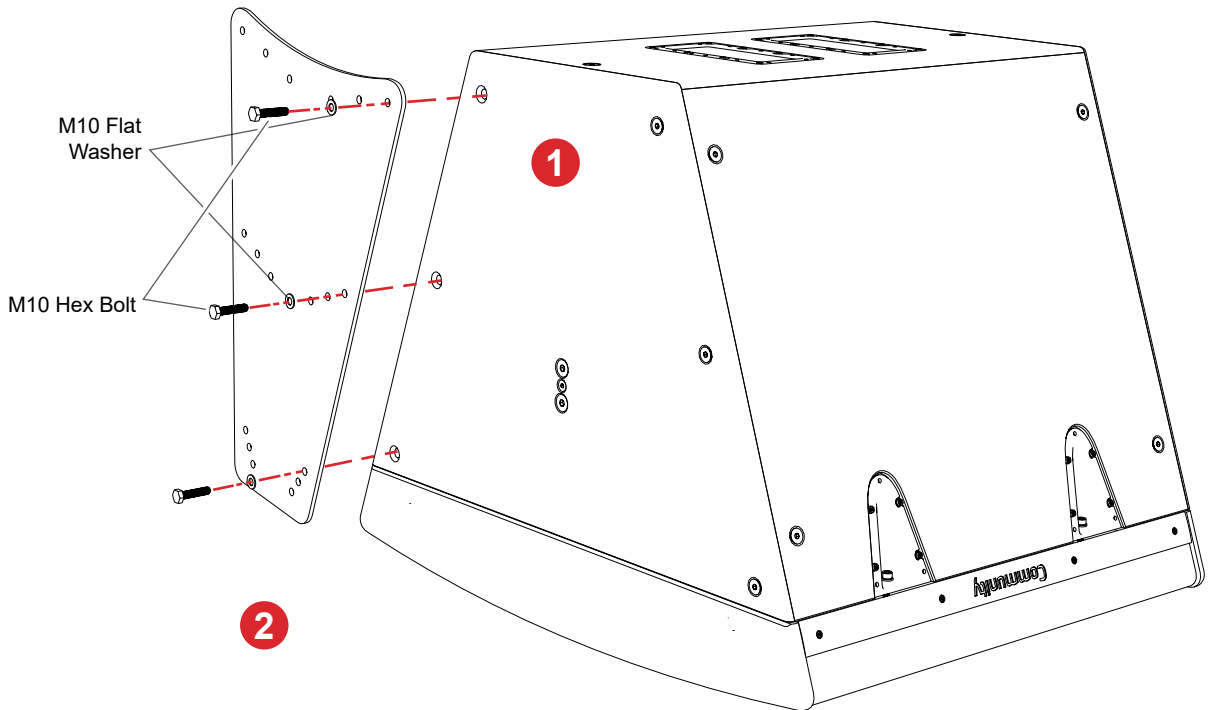

Figure 2. Attach splay bracket to each side of the loudspeaker
2. Attach the splay brackets to what will be the upper cabinet - Keep the connections loose so that the next cabinet can be moved between them. (Figure 2)